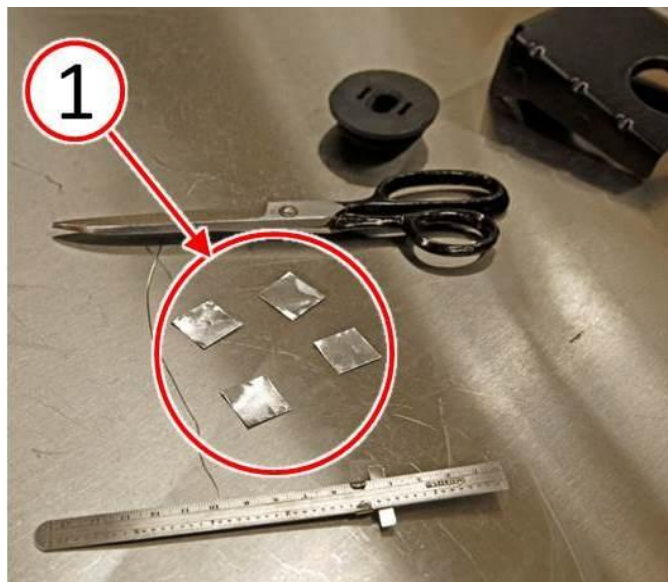

Fig. 5 Cut Tape Pieces To Size
6. Cut four pieces of aluminum foil adhesive tape to 20 mm x 20 mm (Fig. 5).